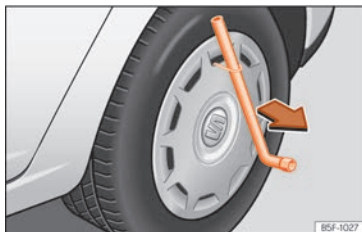

Fig. 41 Remove the wheel cover.
- Insert the box spanner through the hook, rest it on the tyre and remove the wheel trim » **Fig. 41**.